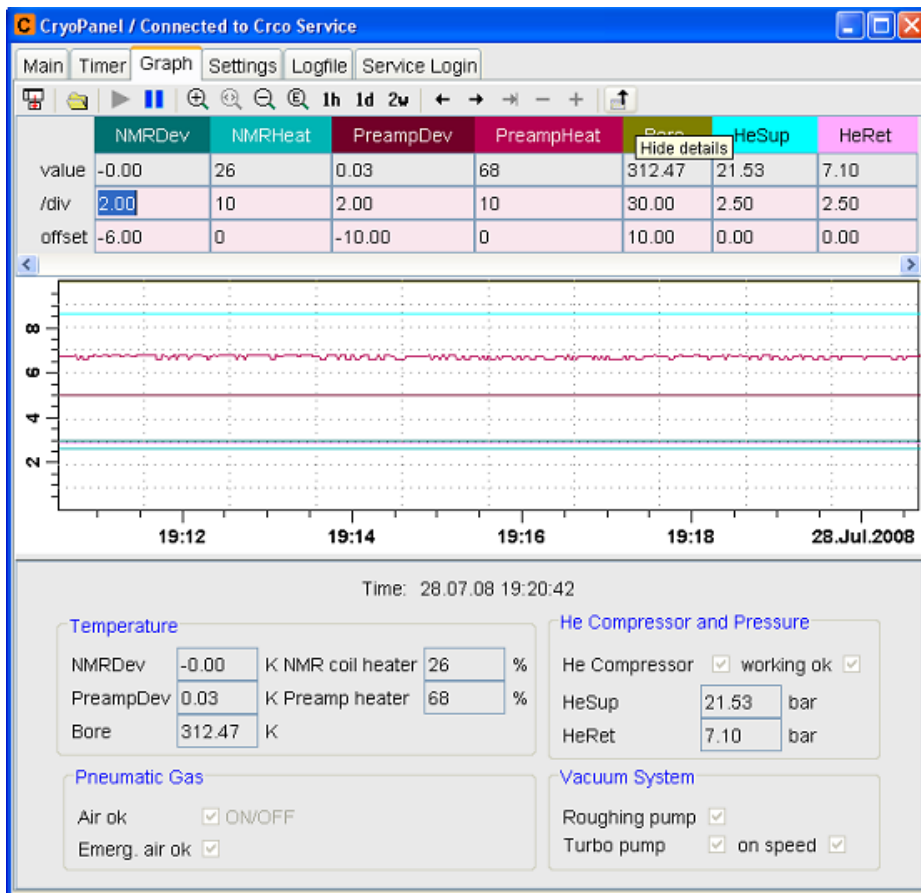

Figure 2.4. Graph Tab in User mode, expanded view.
6. **PreampDev:** This is the deviation (in K) of the CryoProbe™ preamp from its setpoint. In the cold state, this value typically fluctuates a few tenths of a degree from the setpoint. Large deviations will lead to the issuing of information and error messages by the cryoplatfrom. An automatic warm up will be initiated if the deviation exceeds 14k. While this parameter is important, it is usually more helpful to monitor the Preamp heater parameter (see item 9 below). NOTE: During a cool down, this parameter will be at a value of -1K until the system starts regulating the preamp temperature.
13. **HeSup:** This is the helium supply pressure coming from the compressor. The absolute value of this pressure will depend on a variety of factors. More important than the absolute value is the stability of the trend of this parameter over time (see Figure 2.4).
Figure 2.4 shows the expanded view a user will see when first opening the *Graph Tab*. In this view, the user may view graphical information for all of the parameters which are listed in the *Main Tab* display (temperature deviations, heater power, bore temp, helium pressure) - see Section 2.2.1 for descriptions of these parameters. Left-clicking on the name of an individual parameter will toggle the graphical display of that parameter on or off.